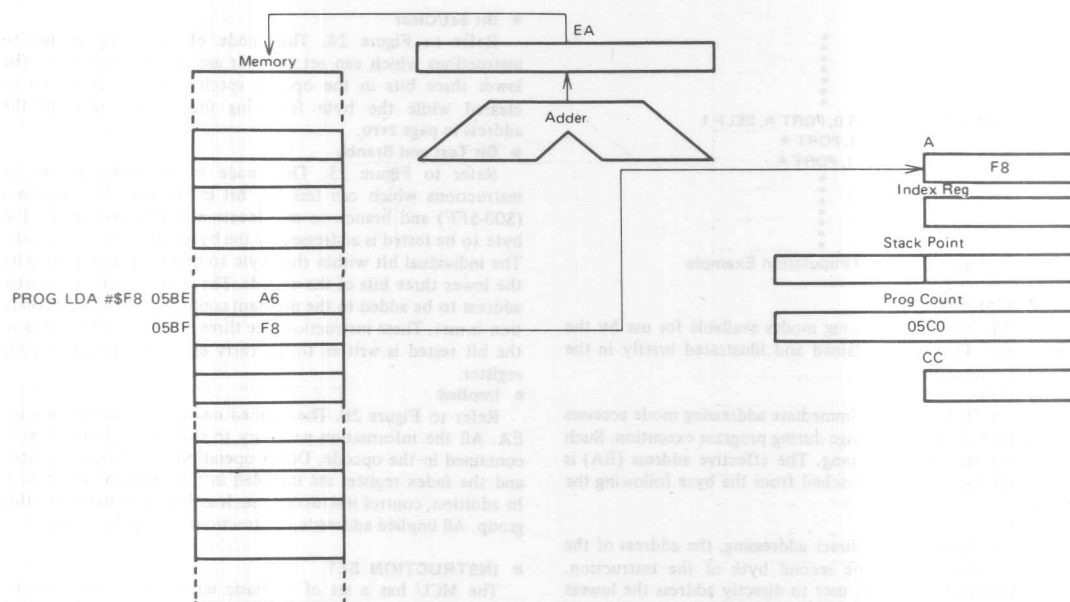

Figure 17 Immediate Addressing Example
Refer to Figure 17. The immediate addressing mode accesses constants which do not change during program execution. Such instructions are two bytes long. The effective address (EA) is the PC and the operand is fetched from the byte following the opcode.